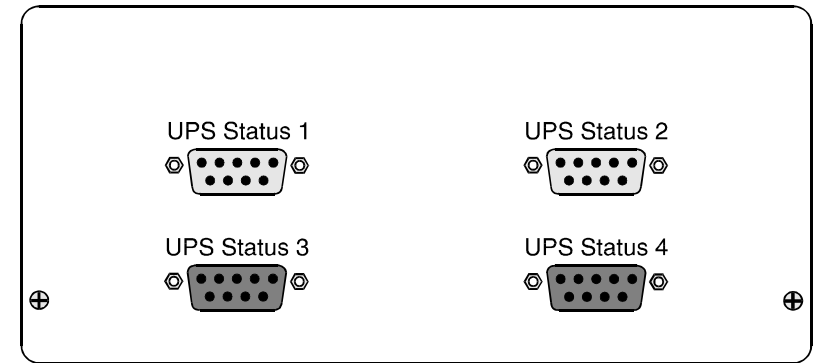

Figure 10
The Fortress Signal Splitter has four *UPS Status* ports (see Figure 10). **These ports work with BEST Fortress interface kits.**
2. Connect the other end of the cable to the *Bypass Switch* connection on the Splitter Box (see Figure 10, page 11).
To set the shutdown DIP Switches, use Figure 14 as a guide. The system that you want to shut down the UPS should be connected to one of the four *UPS Status* ports (see Figure 10, page 11 for location of ports). Find the number of that port in the first column of the table and use the switch settings in that row.
Use Figure 16 as a guide to help determine these settings. Your AS/400 system should be connected with an INT-0036 interface cable to one of the four *UPS Status* ports (see Figure 10, page 11, for location of ports). Find the number of that port in the first column of the table and use the switch settings in that row.